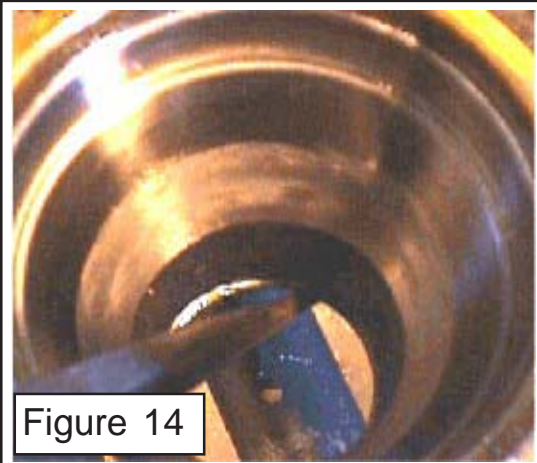
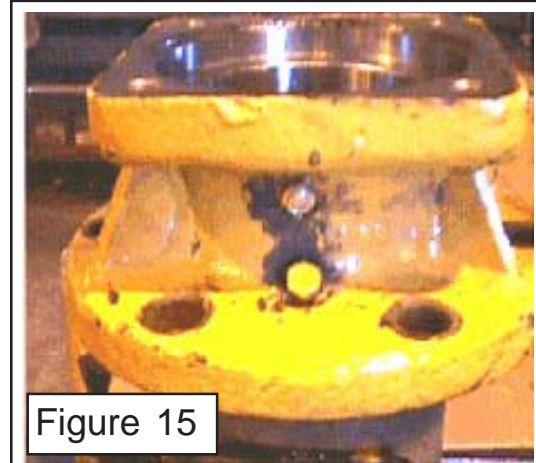

Figure 14
Figure 15
10. Use a suitable drift punch to remove the bearing races. **BE CAREFUL NOT TO DAMAGE THE SPINDLE HOUSING. (figure 14)**, Remove and inspect the vent and filler plugs and passageways. Be sure the vent is free from clogs due to debris or paint. Always install the vent plug above the filler plug (figure 15).